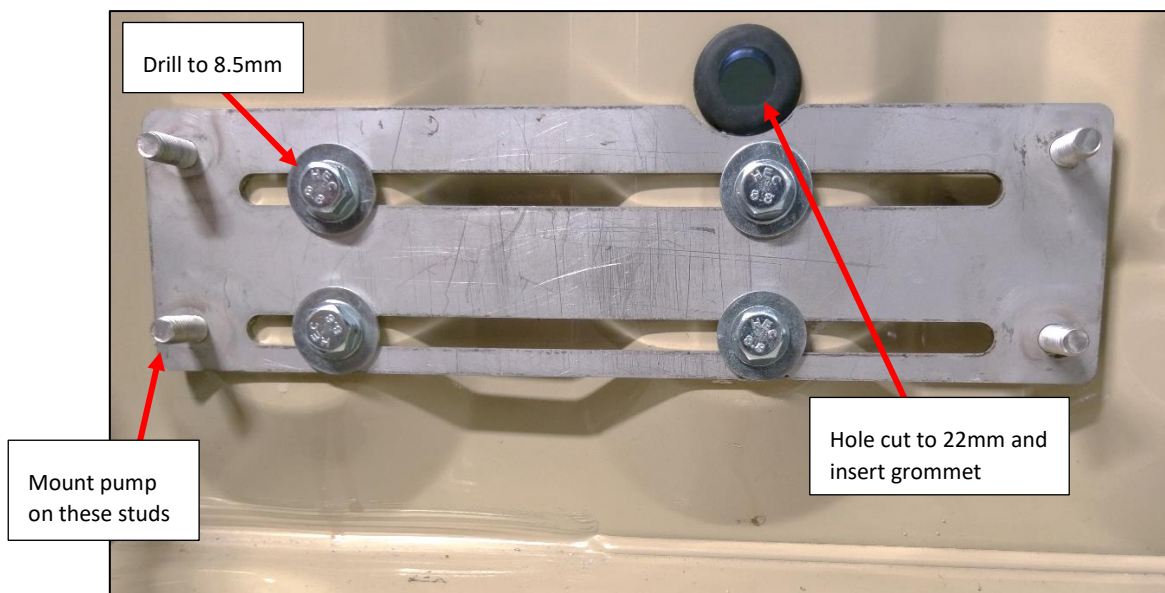
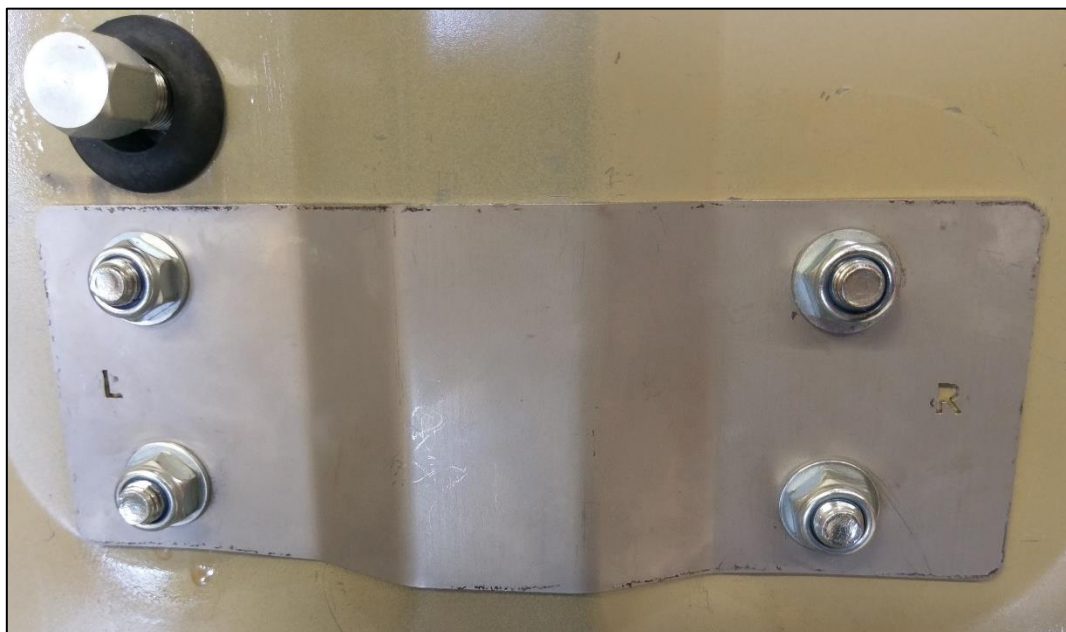

Fig. 12 ABT™ Failsafe pump enclosure single cab (shown behind drivers seat RHD vehicle).
Fig. 13 Exterior bracket mount
1. Below is the installation procedure for a single cab. See Fig. 12 & Fig. 13